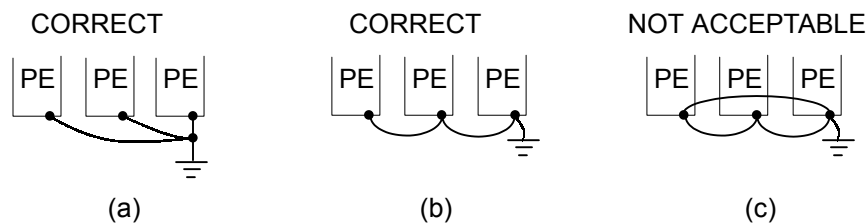

Fig. 3 Grounding of Three GA7200 Units
- (1) Ground resistance should be 100 ohms or less.
- (2) Never ground GA7200 in common with welding machines, motors, and other large-current electrical equipment, or ground pole. Run the ground lead in separate conduit from leads for large-current electrical equipment.
- (3) Use the ground leads which comply with AWG standards and make the sure the length is as short as possible.
- (4) Where several GA7200 units are used side by side, it is preferable to ground each unit separately to ground poles. However, connecting all the ground terminals of GA7200 in parallel while grounding only one of the GA7200's to the ground pole is also permissible (Fig. 3). Be sure not to form a loop with the ground leads.